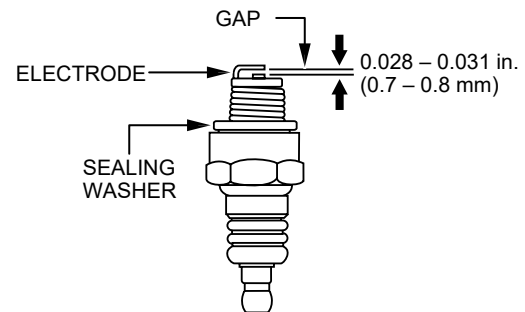

Figure 33. Engine Spark Plug
- Inspect the **spark plugs** (Figure 33). Replace the spark plugs if they are damaged or badly fouled, if the **sealing washer** is in poor condition, or if the **electrode** is worn.
- Measure the spark plug **electrode gap** (Figure 33) with a wire-type feeler gauge. If necessary, adjust the gap to 0.028–0.031 in. (0.7–0.8 mm) by carefully bending the side electrode.